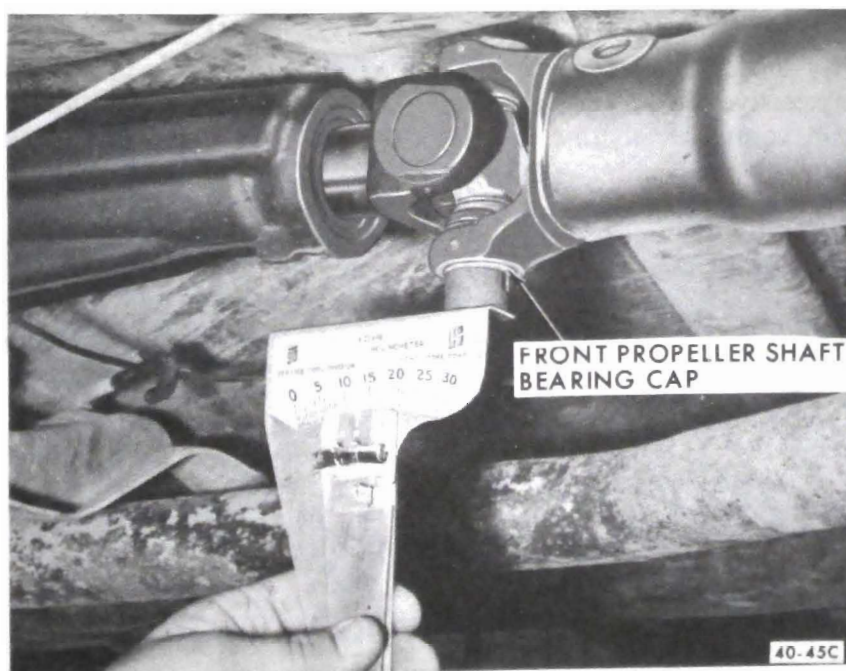

Figure 40-60 Measuring Angle at Front or Propeller Shaft
4. Place inclinometer on front propeller shaft bearing cap. See Figure 40-60. Center bubble in sight and record measurement.